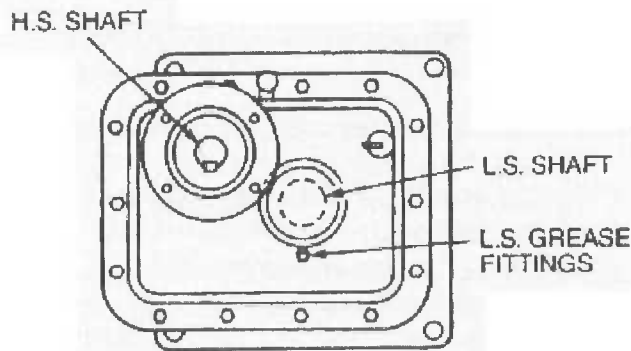

Figure 38 — L.S. grease fitting location
7. Refer to Fig. 38. Check the Low-Speed bearing axial float with a dial indicator by pushing and pulling on the low-speed shaft while alternately rotating it in opposite directions.